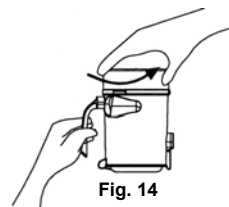

Fig. 14
1. To remove the filter assembly from the dust cup, hold the dust cup and with the other hand, turn counter clockwise and pull out the filter cover. (Fig. 14)